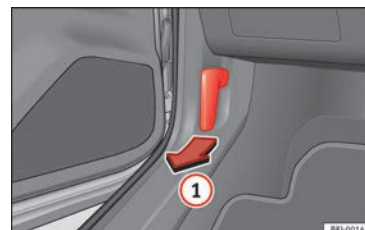

Fig. 9 Release lever in the driver's footwell area.
- Open the door and pull the lever under the dashboard » **Fig. 9** ①.